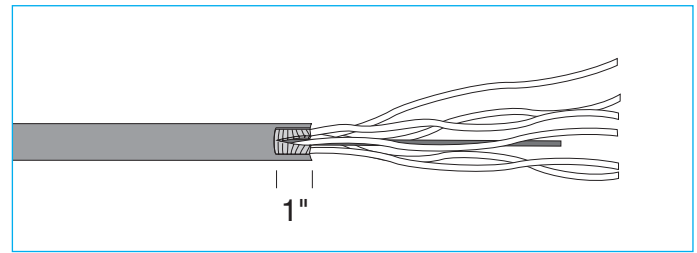

Figure 2.
7.1.5 If you are using a B-Bond clamp on double-armored cable, remove a 1" square section of the outer cable sheath around the tab. (Figure 2) Slide the lower plate of the bond clamp under the inner shield so that the stud bolt sticks up through the tab. Place the upper plate of the B-Bond clamp over the bolt.